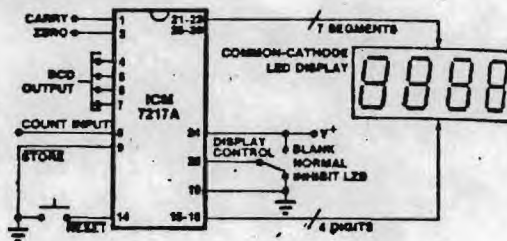

Figure 7: Unit Counter
2. UNIT COUNTER WITH BCD OUTPUT (Figure 7)